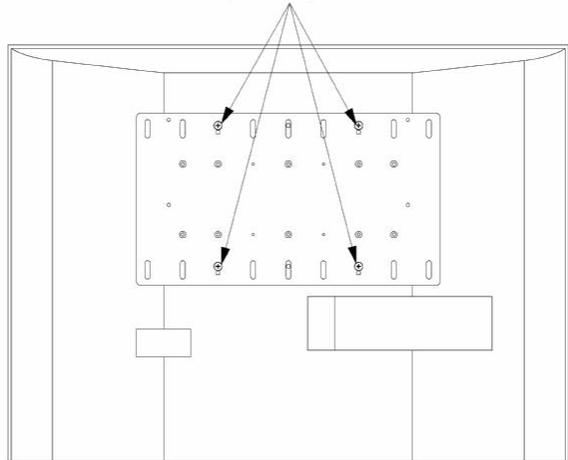
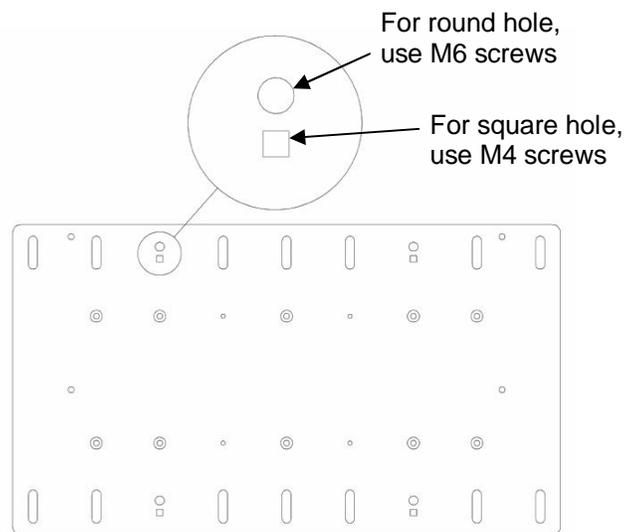

Figure 9. Display with 200mm x 200mm Hole Pattern
Figure 10. Select Round Hole or Square Hole
- a. If using square hole on interface bracket (20), select four Phillips head M4 screws from Bag A.
- b. If using round hole on interface bracket (20), select four Phillips head M6 screws from Bag B.
- c. Select spacers (120) or (130) from Bag C.
2. Attach the interface bracket (20) using the hole-pattern on the back of your display as shown in Figure 9 and Figure 10 .